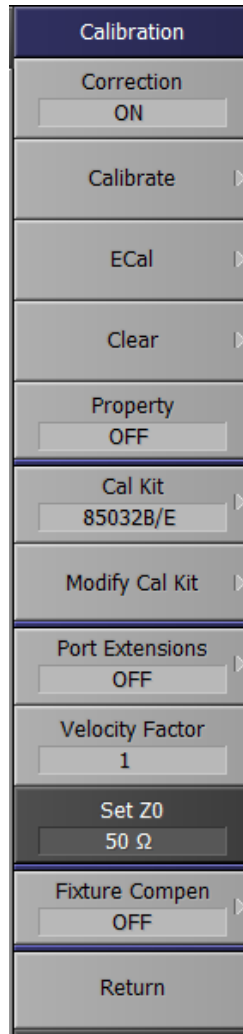

Fig. 15 - E5061B Calibration menu, where  $Z_0$  is highlighted.
Step 2: Set > **Rs**, by specifying under  $Z_0$  (as shown by Figure 15)
Step 10: Set > **Rs**, by specifying under  $Z_0$  (as shown by Figure 15)